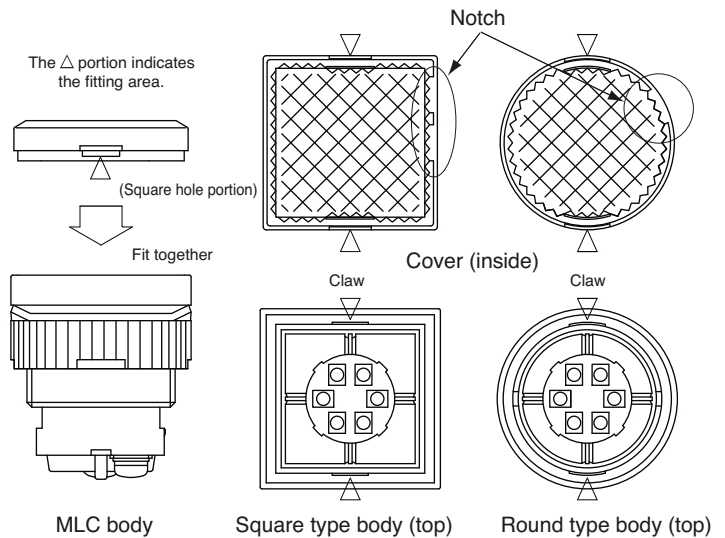

Figure 1: Installing the Diamond Cut Cover
- 1) To exchange the diamond cut cover, fit the Δ portions (square hole and claw portions) as illustrated in Figure 1.